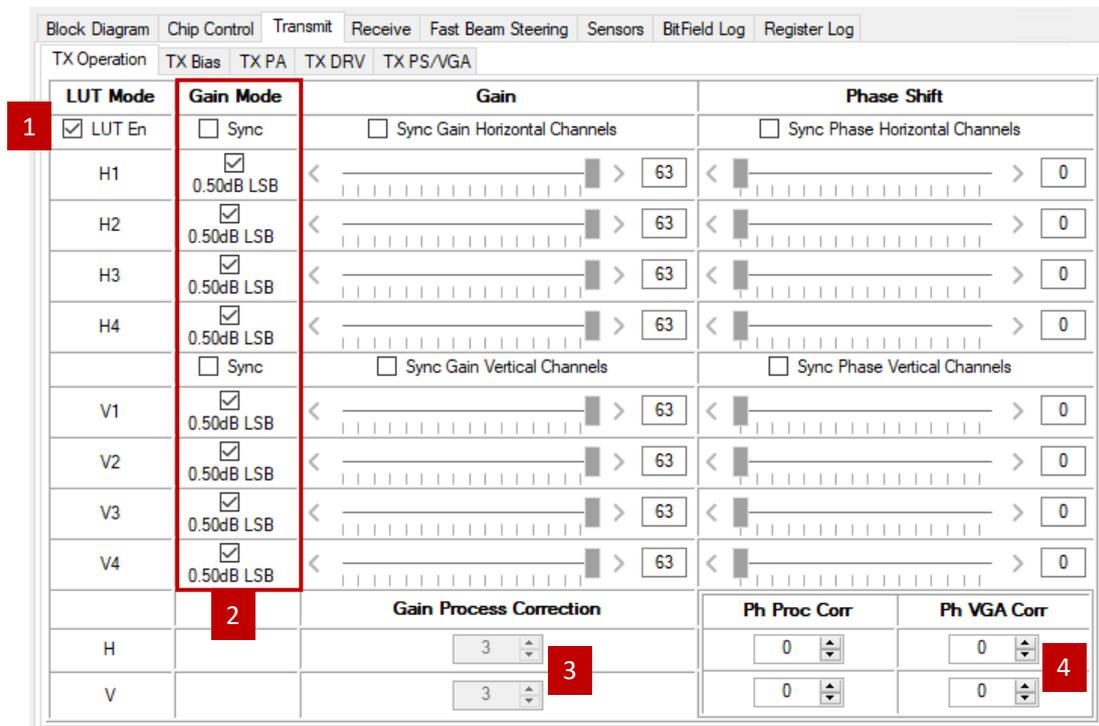
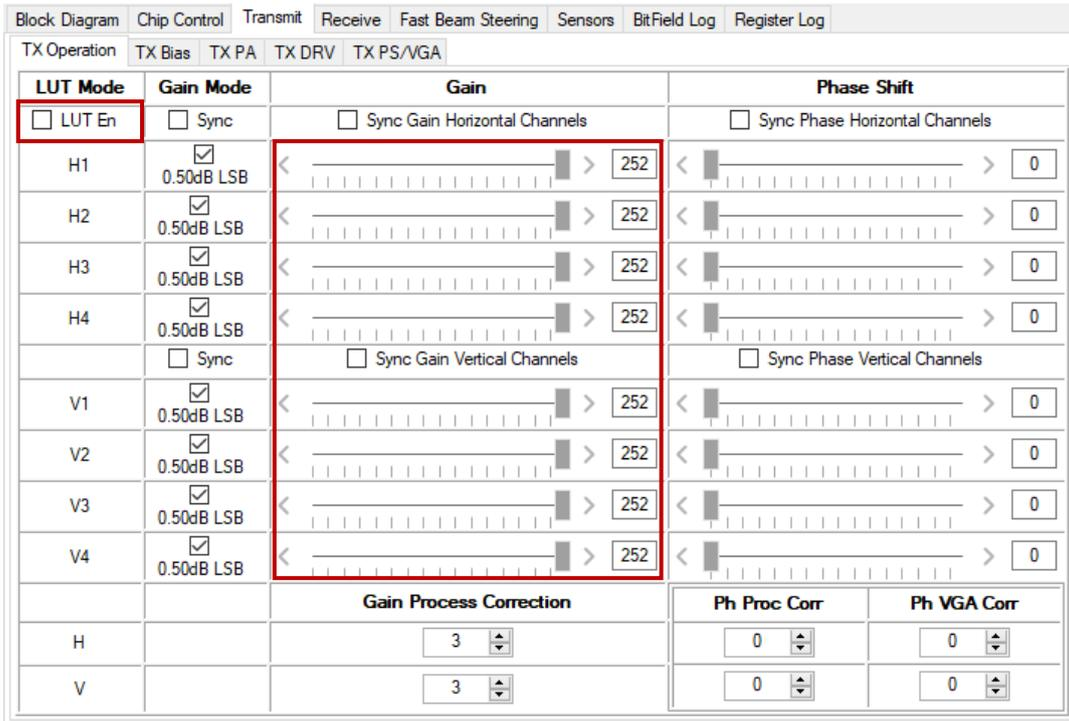

Figure 13. Transmit Panel: TX Operation with VGA LUT Enabled
Figure 14. Transmit Panel: TX Operation with VGA LUT Disabled
In the transmit mode, gain and phase settings for each enabled channel can be set in the TX Operation subpanel shown in Figure 13 by using the sliders or directly entering appropriate values. The **LUT En** checkbox (see item 1 in Figure 13) is checked by default to provide 63 steps of gain control for optimal RMS gain error using recommended VGA LUTs. The Gain Mode checkboxes (see item 2 in Figure 13) can be selected for each channel to toggle between 0.25dB and 0.5dB gain step modes. If the **LUT En** checkbox is unchecked, as shown in Figure 14, the gain setting sliders can be adjusted from 0 to 252 (increments of 4, representing the 6 MSBs of gain setting words). The 2 LSBs of gain and phase setting words can be set using items 3 and 4 in Figure 13.